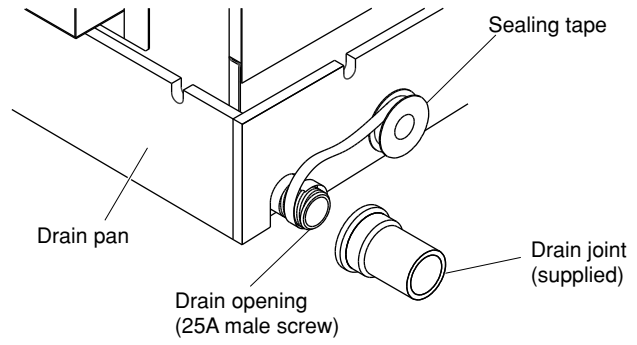
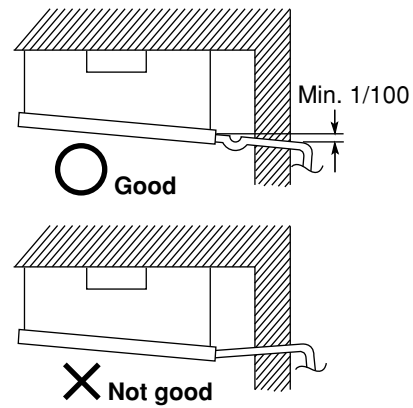

Fig. 3-103
Fig. 3-104
- (2) If connecting a drain joint (supplied) to the threaded drain port, first wrap the drain port threads with sealing tape, then connect the joint. (Fig. 3-103)
- (3) After connecting the drain pipe securely, wrap insulator (field supply) around the pipe.
- (4) Ensure the drain pipe has a downward gradient (1/100 or more) and prepare traps as indicated in Fig. 3-104.